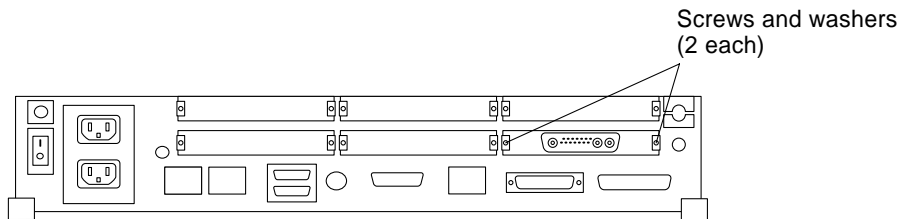

FIGURE 6-1 Rear Panel—Screws and Washers
6. **Remove the screws and washers from the outside of the rear panel where the SBus card is.** See FIGURE 6-1.